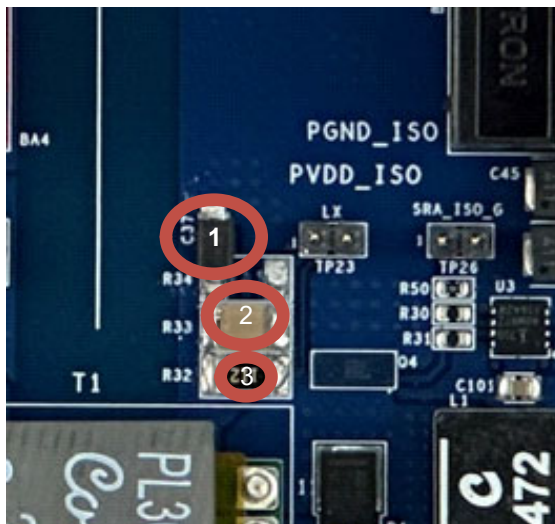

Figure 19. RC Snubber Modified to RCD Snubber
1. Place an ES1D 200V diode between the left pad of R34 and C37 ground pad (diode cathode facing ground) as shown in Figure 19.
2. Place a 0.47 $\mu$ F 100V X7R capacitor across the R33 PCB pads as shown in Figure 19.
3. Place a 1k resistor across the R32 PCB pads as shown in Figure 19.